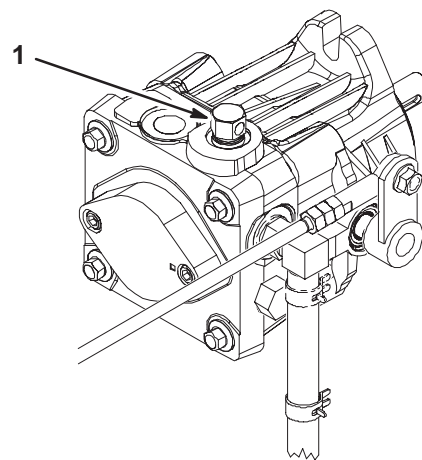

Figure 23
2. Rotate the by-pass valves counterclockwise 1 turn to push. This allows hydraulic fluid to by-pass the pump enabling the wheels to turn (Fig. 23).
Rotate the by-pass valves clockwise 1 turn to operate the machine (Fig. 23).